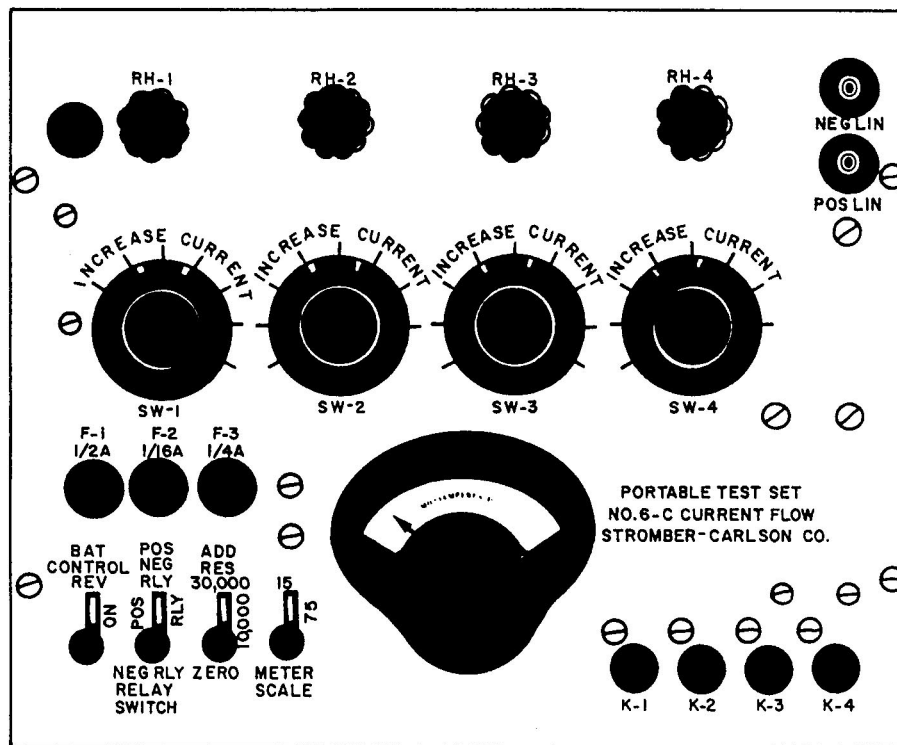

Figure 6-46.—Current flow test set controls and indicators.
**CURRENT FLOW TEST SET.**— The current flow test set (fig. 6-46) is a portable, relay-adjusting test set. It is connected by its power cable to an external dc power source. The resistance circuits of the test set are connected to binding posts. The relay to be adjusted is connected to the binding posts by two test leads.